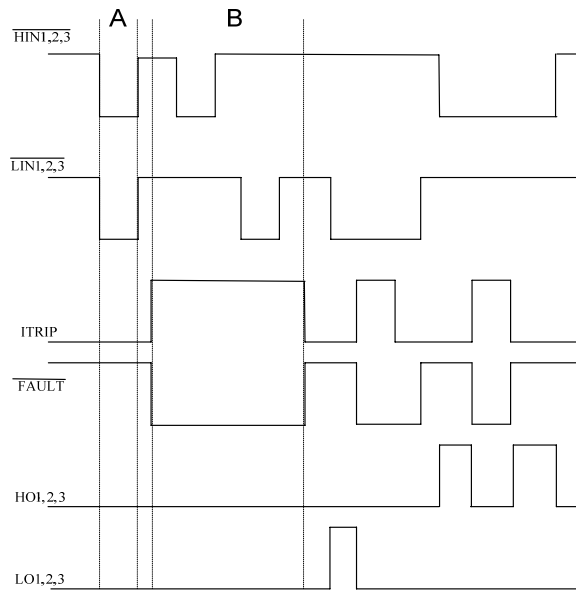

**Figure 3: Switching time waveforms**
The relationship between the input and output signals of the IRS233(0,2)(D) are illustrated below in Figures 3. From these figures, we can see the definitions of several timing parameters (i.e.,  $PW_{IN}$ ,  $PW_{OUT}$ ,  $t_{ON}$ ,  $t_{OFF}$ ,  $t_r$ , and  $t_f$ ) associated with this device.